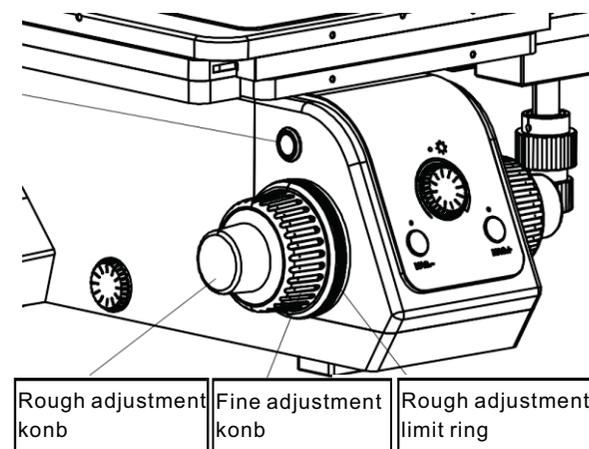

Fig.13
- (1) Place the sample to be observed on the stage and move the 5X objective lens into the optical path.
- (2) Loosen the rough adjustment upper limit handwheel ①, align the left sight adjustment ring of the observation cylinder to "0" (see 3-5 sight adjustment for details), observe the right eyepiece with the right eye, turn the rough adjustment handwheel ② until the outline of the observation specimen appears in the field of view, and then lock the rough adjustment upper limit handwheel. (See Fig.13)
- (3) Turn the inching handwheel ③ to make the details of the specimen clear.